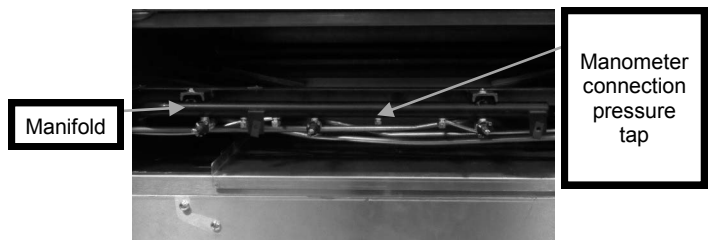

Figure 6. Gas Pressure Tap
6. Connect a manometer to the pressure tap provided on the broiler unit gas piping manifold, Figure 6.